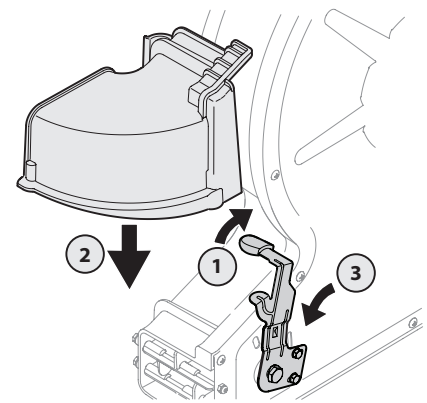

Figure 6
1. Pivot the blower direction lever all the way to the right, into the highest position. See 1 in Figure 6.
2. Slide the chute attachment downward, over the opening. See 2 in Figure 6.
3. Pivot the direction lever to the middle position to lock the chute attachment in place. See 3 in Figure 6.